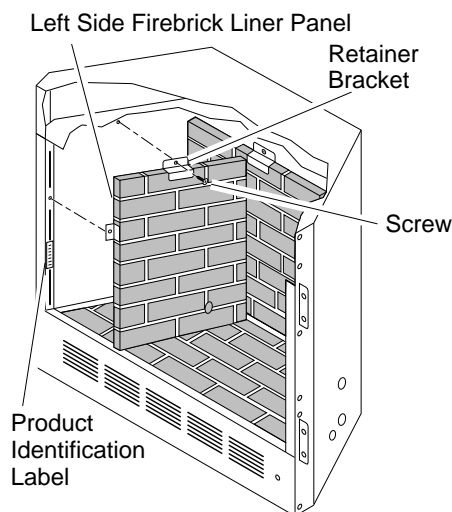

Figure 18 - Removing Side Panel
12. If applicable carefully replace firebrick panels in reverse order (see Figures 18 through 20, page 12).
Note: The firebox identification label (including model number, serial number, clearances, etc.) is located behind the left side firebrick panel. See Figure 18, page 12.